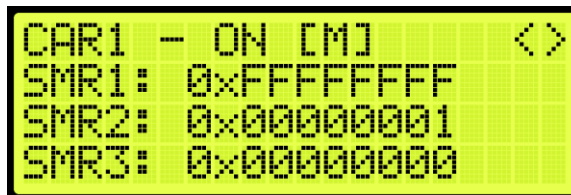

Figure 270: Rear Security Map Status
7. From the Rear Security Map Status (See Figure 270), press the right button.